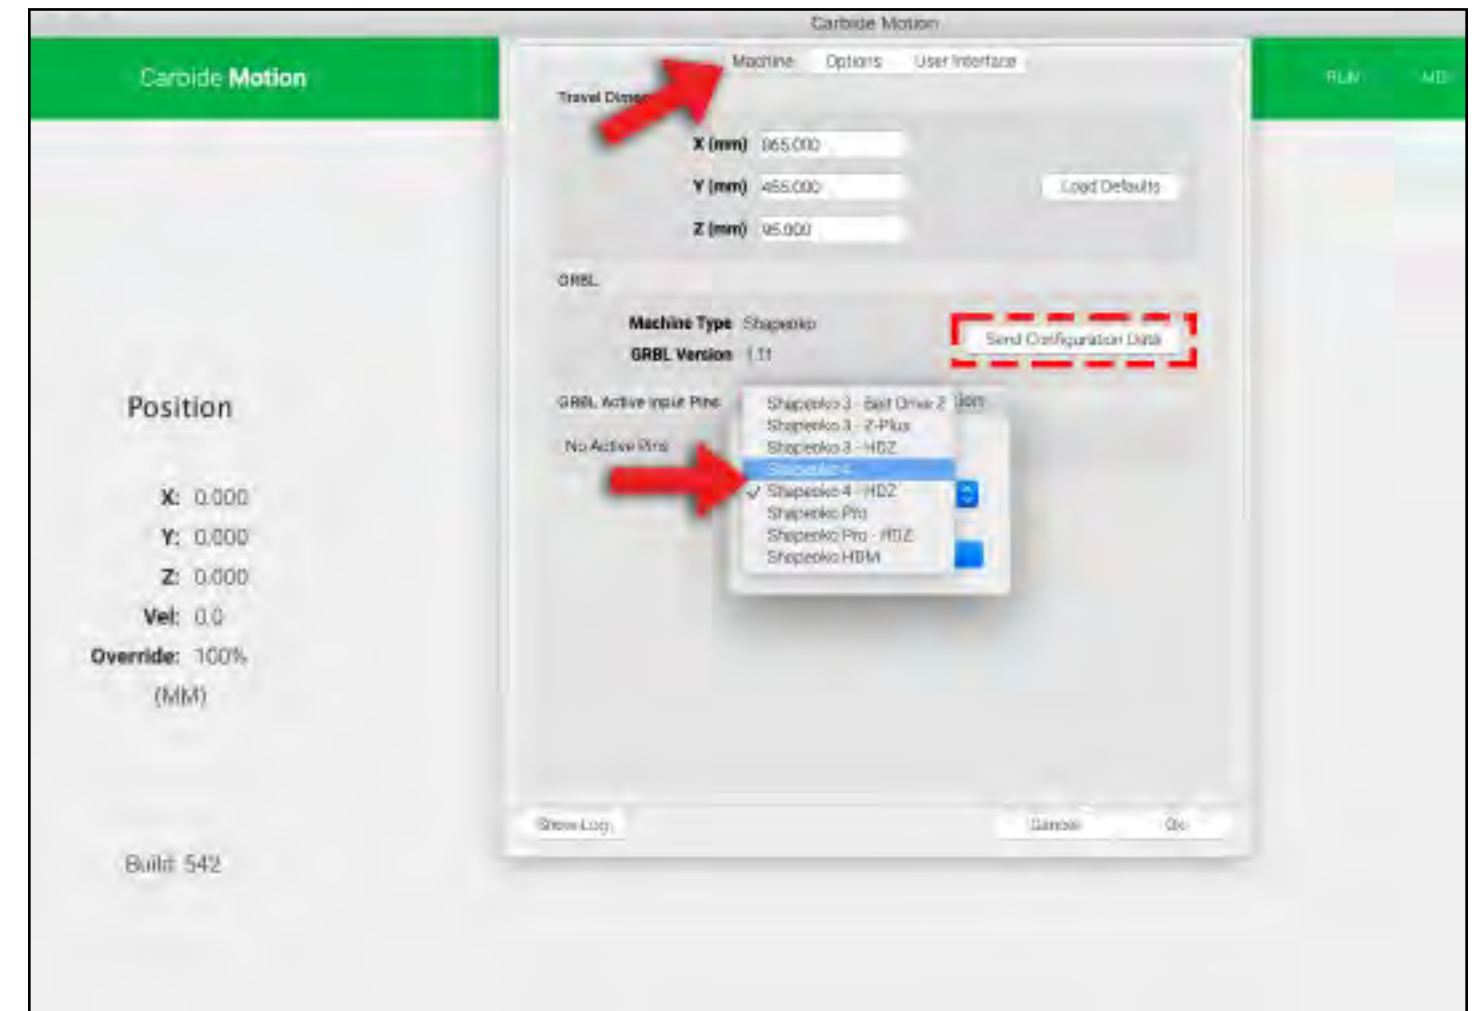

Figure 10-2
3. Click the **Send Configuration Data** button. See Fig. 10-2.
4. In the *Send Configuration* popup choose your Machine Type from the dropdown list (see Fig. 10-2):